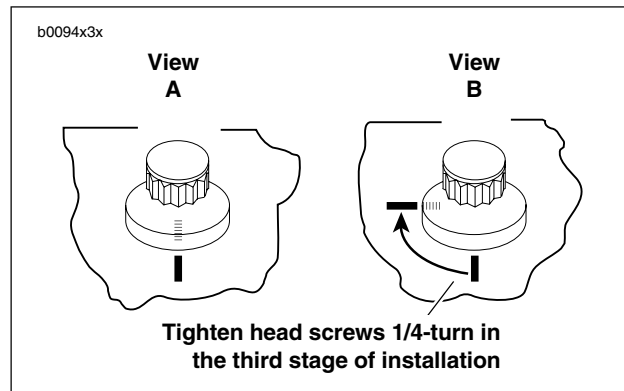

Figure 3-27. Tightening Head Screws
- c. See **Figure 3-27**. Mark cylinder head and head screw shoulder with a line as shown (View A). Tighten each screw a 1/4-turn (90°) (View B).